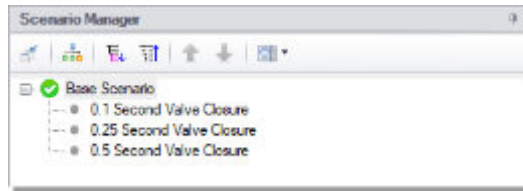

Figure 5.7 Scenario Tree with additional child scenarios created
- **Right-click the Base Scenario in the Quick Access Panel.** Create another child and call it "0.25 Second Valve Closure". Finally, create one more child and call it "0.5 Second Valve Closure". The child scenarios should now be displayed as shown in Figure 5.7.